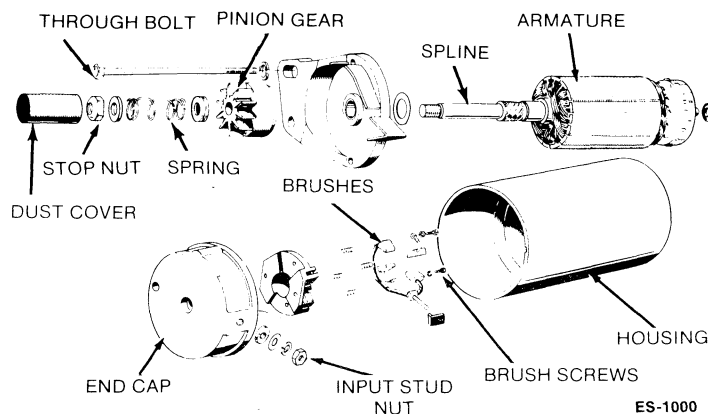

FIGURE 18. STARTER DISASSEMBLY
2. Remove the through-bolts and separate the end cap, the housing and the armature (see Figure 18).